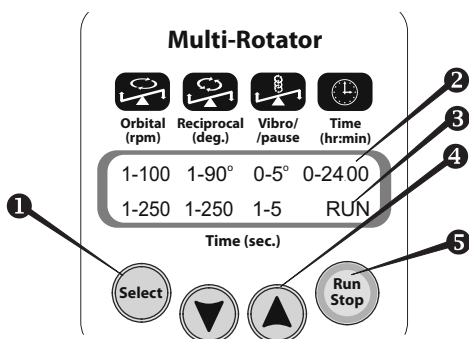

Fig. 1 Control panel
- 4.4. Press the **Run/Stop** key (Fig. 1/5) to start the program.
- 4.5. The platform motion will begin and the corresponding indication (RUN (Fig. 1/4) and the changing time values) will be shown on the display.
- 4.6. If the operation time is not set and the timer indicator (Fig. 1/2) shows 0:00, pressing the **Run/Stop** key will cause continuous operation of the rotator until the **Run/Stop** key is pressed again.
- 5.1. Press the **Select** (Fig. 1/❶) key to choose the parameter to change (the active parameter is flashing).
- 5.2. Use the **▲** and **▼** keys (Fig. 1/❷) to set the necessary value (note: if the key is pressed for more than 2 sec the numerical changes quickly).